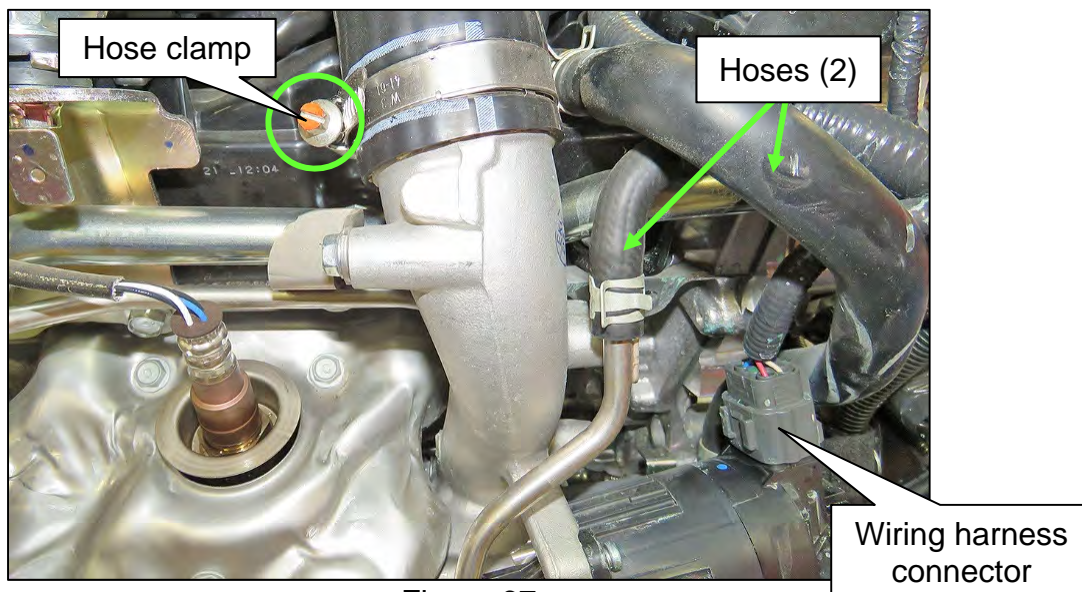

Figure 67
102. Tighten the hose clamp (Figure 67).
103. Reconnect the two (2) hoses (Figure 67).
104. Reconnect the wiring harness connector (Figure 67).